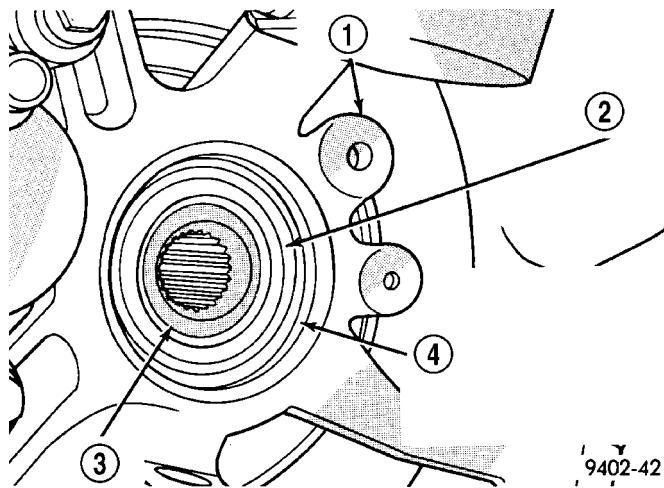

Fig. 18 Steering Knuckle to C/V Joint
(4) Clean all debris and moisture out of steering knuckle (Fig. 18).